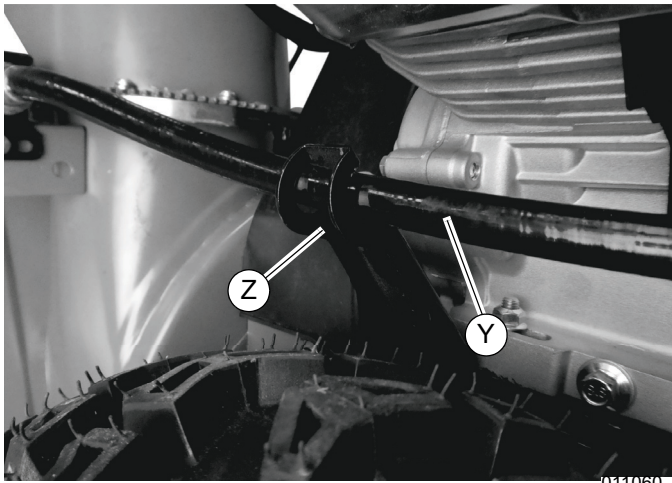

Figure 2-14. Rotation Bracket Cable
15. See Figure 2-14. Place rotation bracket cable (Y) into connecting plate (Z).